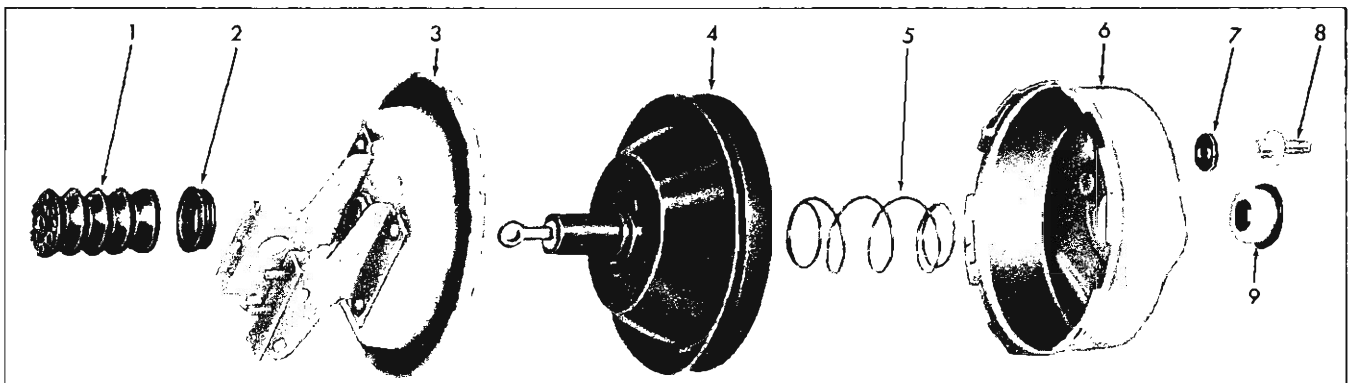

Fig. 24—Component Exploded View
5. Remove rubber boot from power piston extension and separate power piston from rear shell. Remove air filter element from power piston extension, and remove power piston bearing from the rear shell (fig. 24).
1. Install power piston bearing in rear shell so that the large flange is outside (fig. 24). Lubricate the grooves in the ID of the power piston bearing.